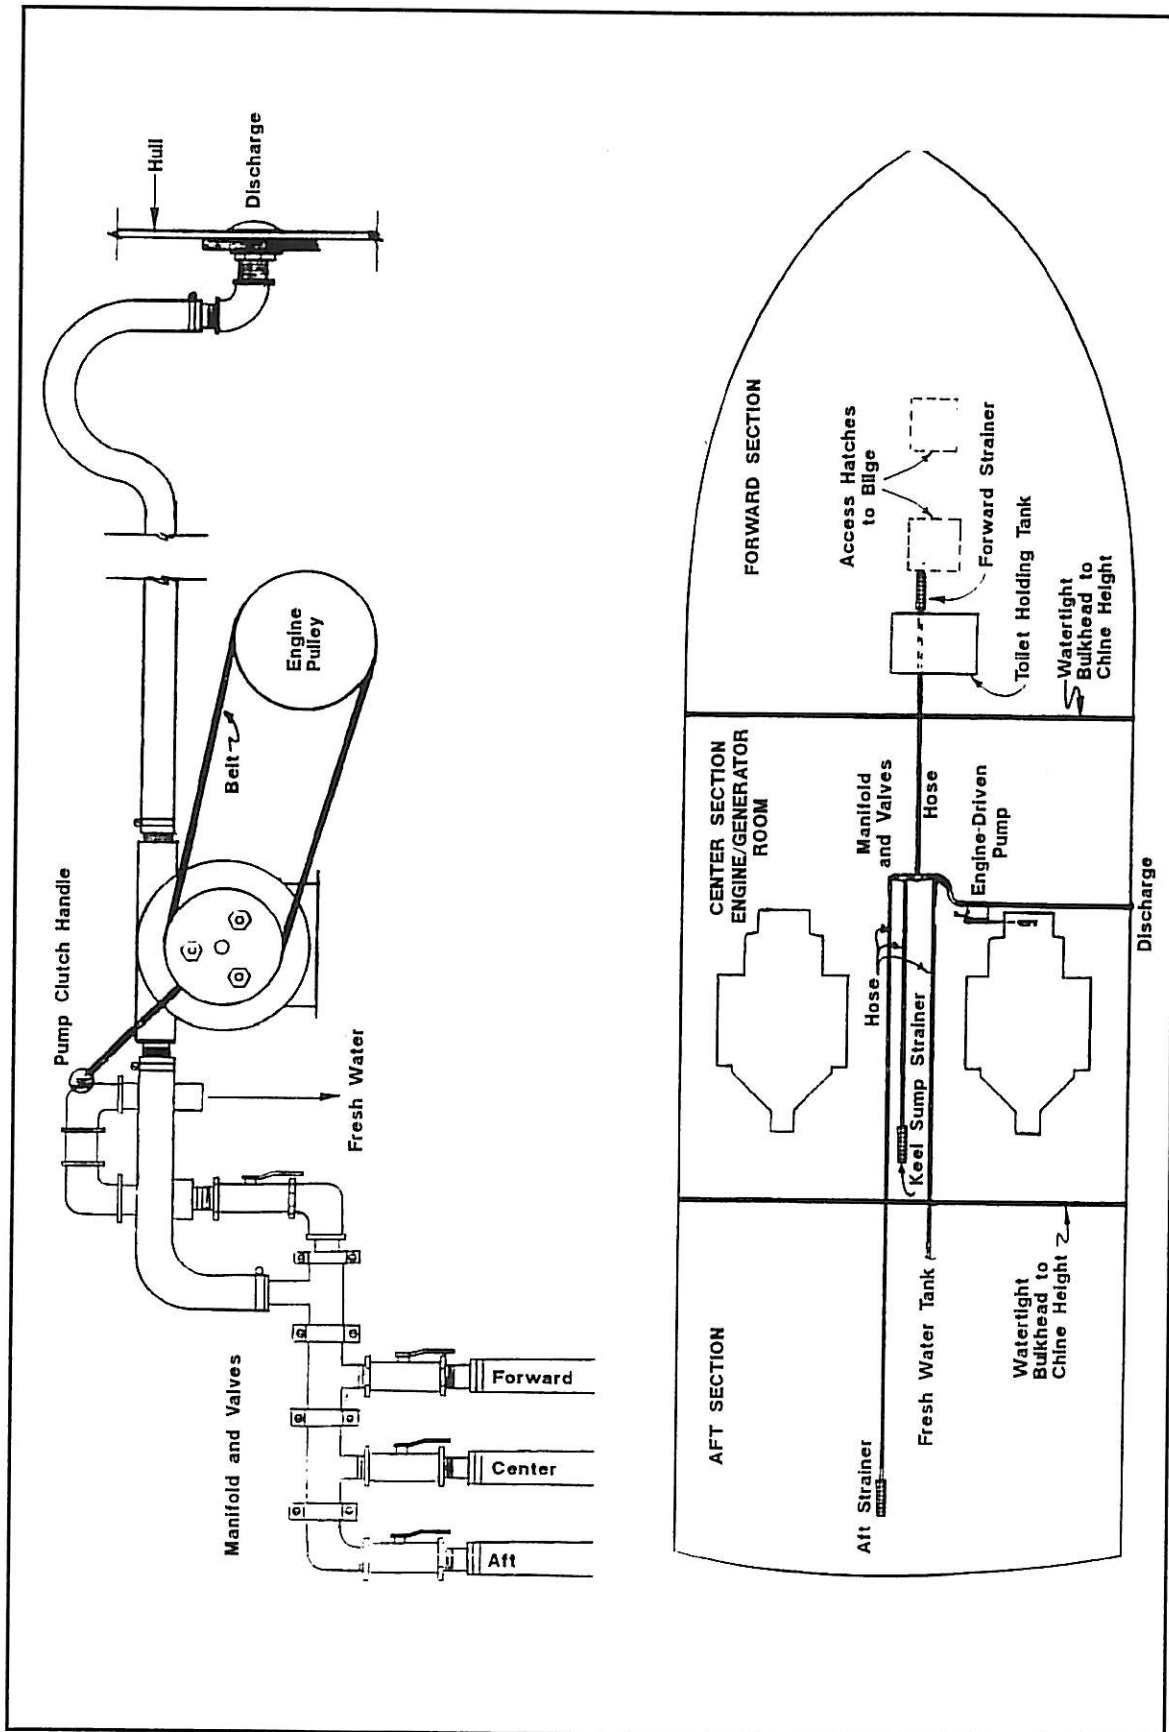

Figure 7-2: Auxiliary Engine-Driven Bilge Pump System
An optional auxiliary engine-driven bilge pump is available for your Bertram. This pump is belt driven directly from the starboard engine, and is engaged by a manual clutch. The pump is mounted on the aft side of the forward engine/generator room webframe just forward of the starboard engine, as shown in Figure 7-2.
- 2) engage the clutch by pulling it toward the vessel's centerline, as shown in Figure 7-2;